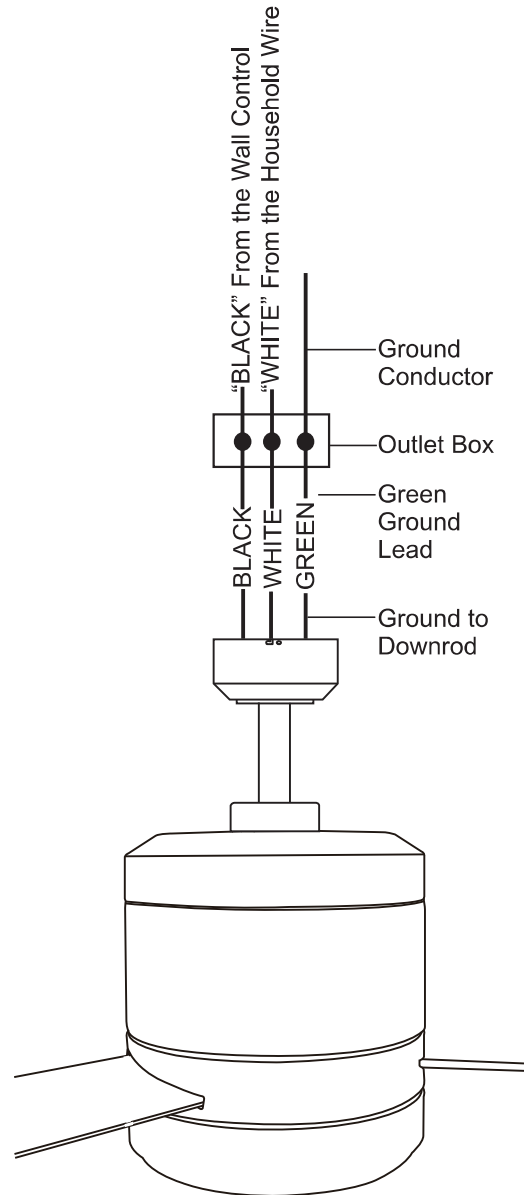

Fig.13
Step 3 Connect the green wire from the fan to the green wire from the household ground wire.(Fig.13)